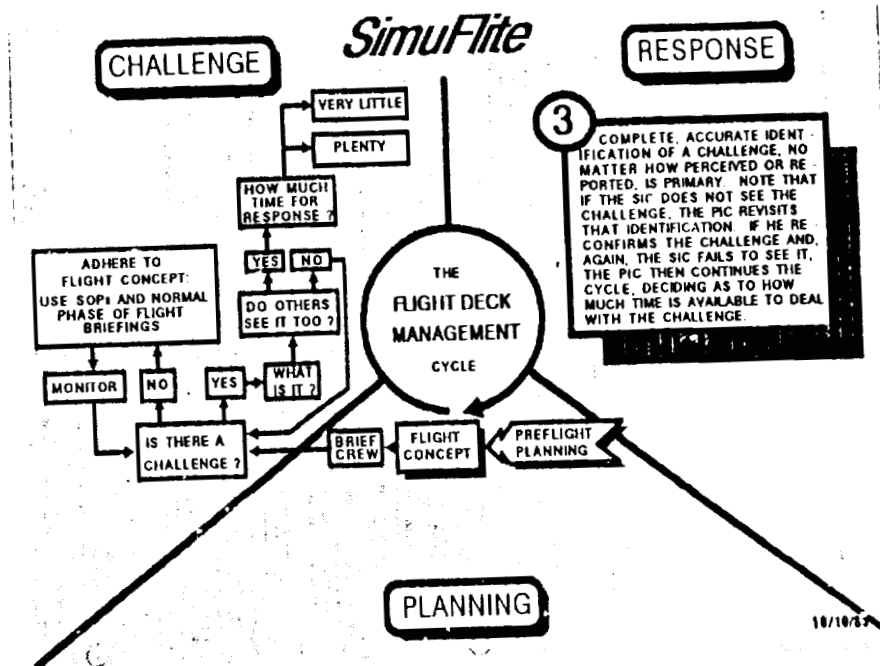

Figure 4
- o Time-soft situations do not immediately threaten the aircraft's or crew's envelopes, and provide the opportunity for analysis and discussion of the situation. (Figure 4)